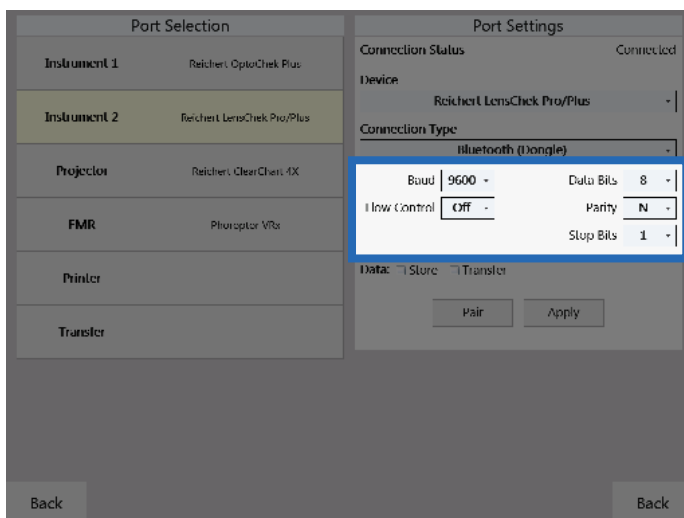

Figure IS-11, Serial Communication Parameters
7. If available, set the serial communication parameters to match the settings on the device being connected. Refer to Figure IS-11.